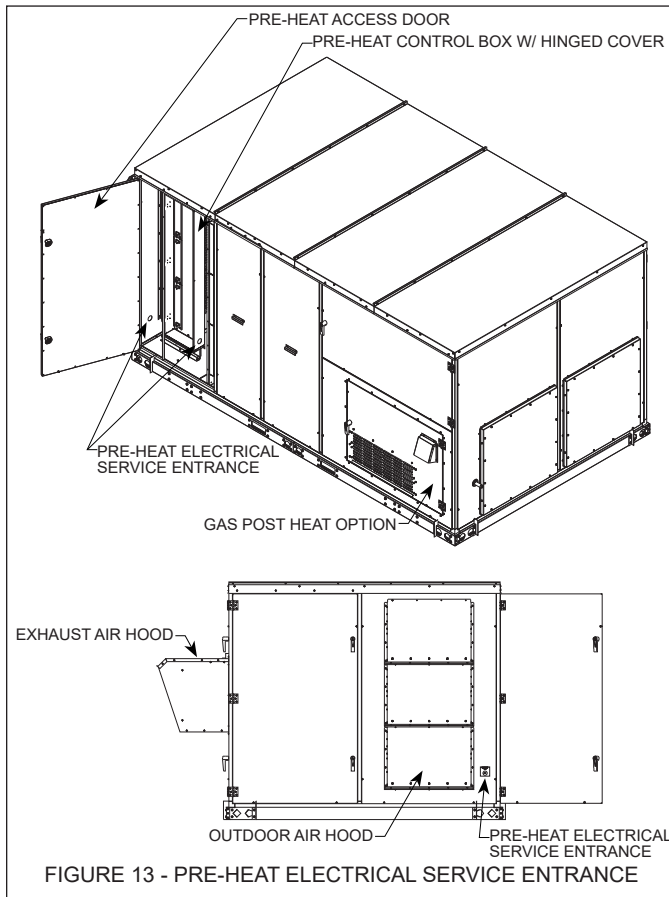

FIGURE 13 - PRE-HEAT ELECTRICAL SERVICE ENTRANCE
1. Route power through front panel below and to the right of the Intake Hood as noted in **Figure 13**. Recommended location of entry is marked with a Drill Location Sticker. Route through bottom of Pre-Heat Control Box and connect to Power Distribution Block.